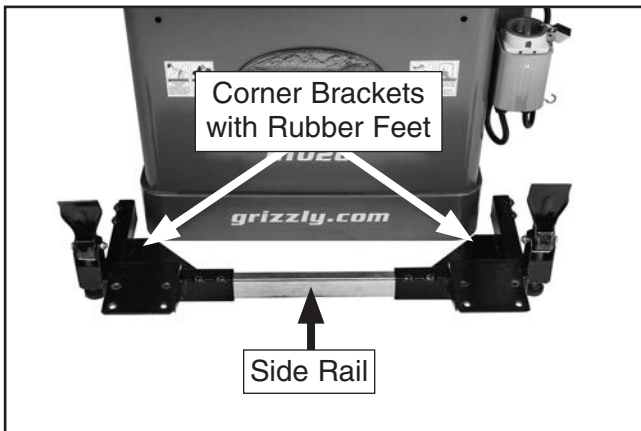

Figure 12. Rail inserted between corner brackets.
- Insert one side rail into the two front brackets, as shown in **Figure 12**, then slide the bracket assembly against the side of machine that will typically be pushed against when moving the machine.